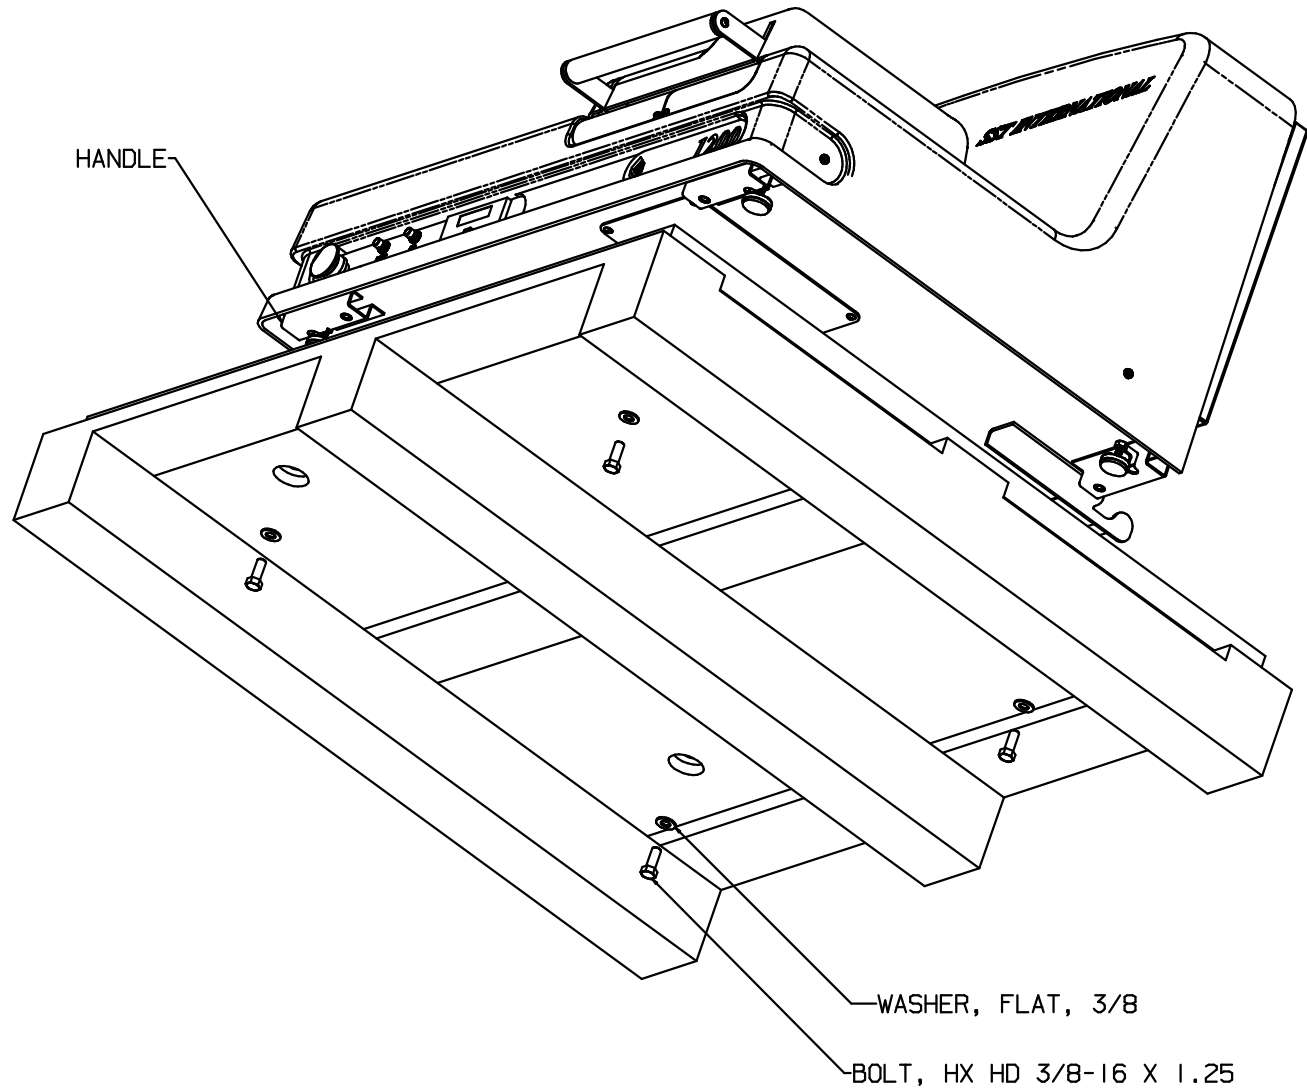

FIGURE 2.0
- Move the furnace close to the final installation position and carefully remove the shipping container. Referring to Figure 2.0, locate and remove four 3/8-16 hex head bolts that attach the furnace to the shipping pallet.
- When lifting the furnace from the shipping pallet to the workbench two people will be required. Ideally, one person will be positioned in front of the furnace and will grip the lift handles located directly underneath adjacent to the leveling pads; the second person, standing behind the rear electrical enclosure, will grip the rear lifting bar while keeping his/her hands spread far enough apart to help control the furnace horizontally. Depending on installation requirements the furnace can be picked up from the sides with additional lifting handles located adjacent to the rear leveling pads. Please refer to Figure 2.0 and 2.1 for an illustration of the lifting bar and lifting handles. Install the four leveling feet into the tapped holes on the bottom of the furnace.